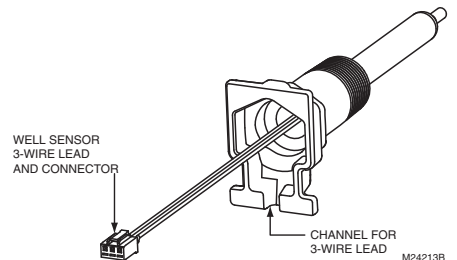
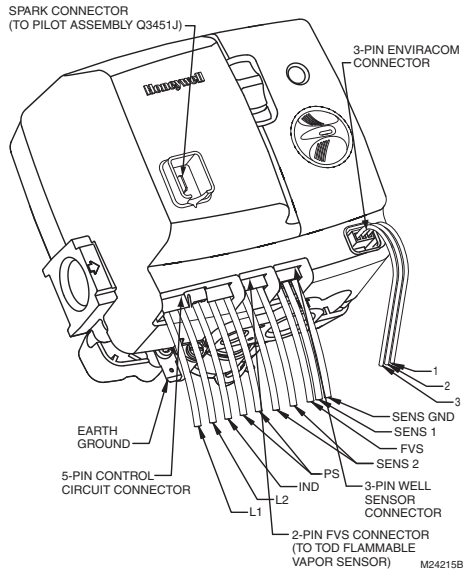

Fig. 4. Well Sensor showing 3-wire lead and channel.
Fig. 8. Wiring connections.
2. Ensure that the 3-wire lead from the well assembly is bent down into its channel (as indicated in Fig. 4), and then insert the 3-pin wire lead from the well assembly onto the connector of the Control and snap in place as indicated in Fig. 8.
NOTE: Use Fig. 8 as a reference for the following connections.